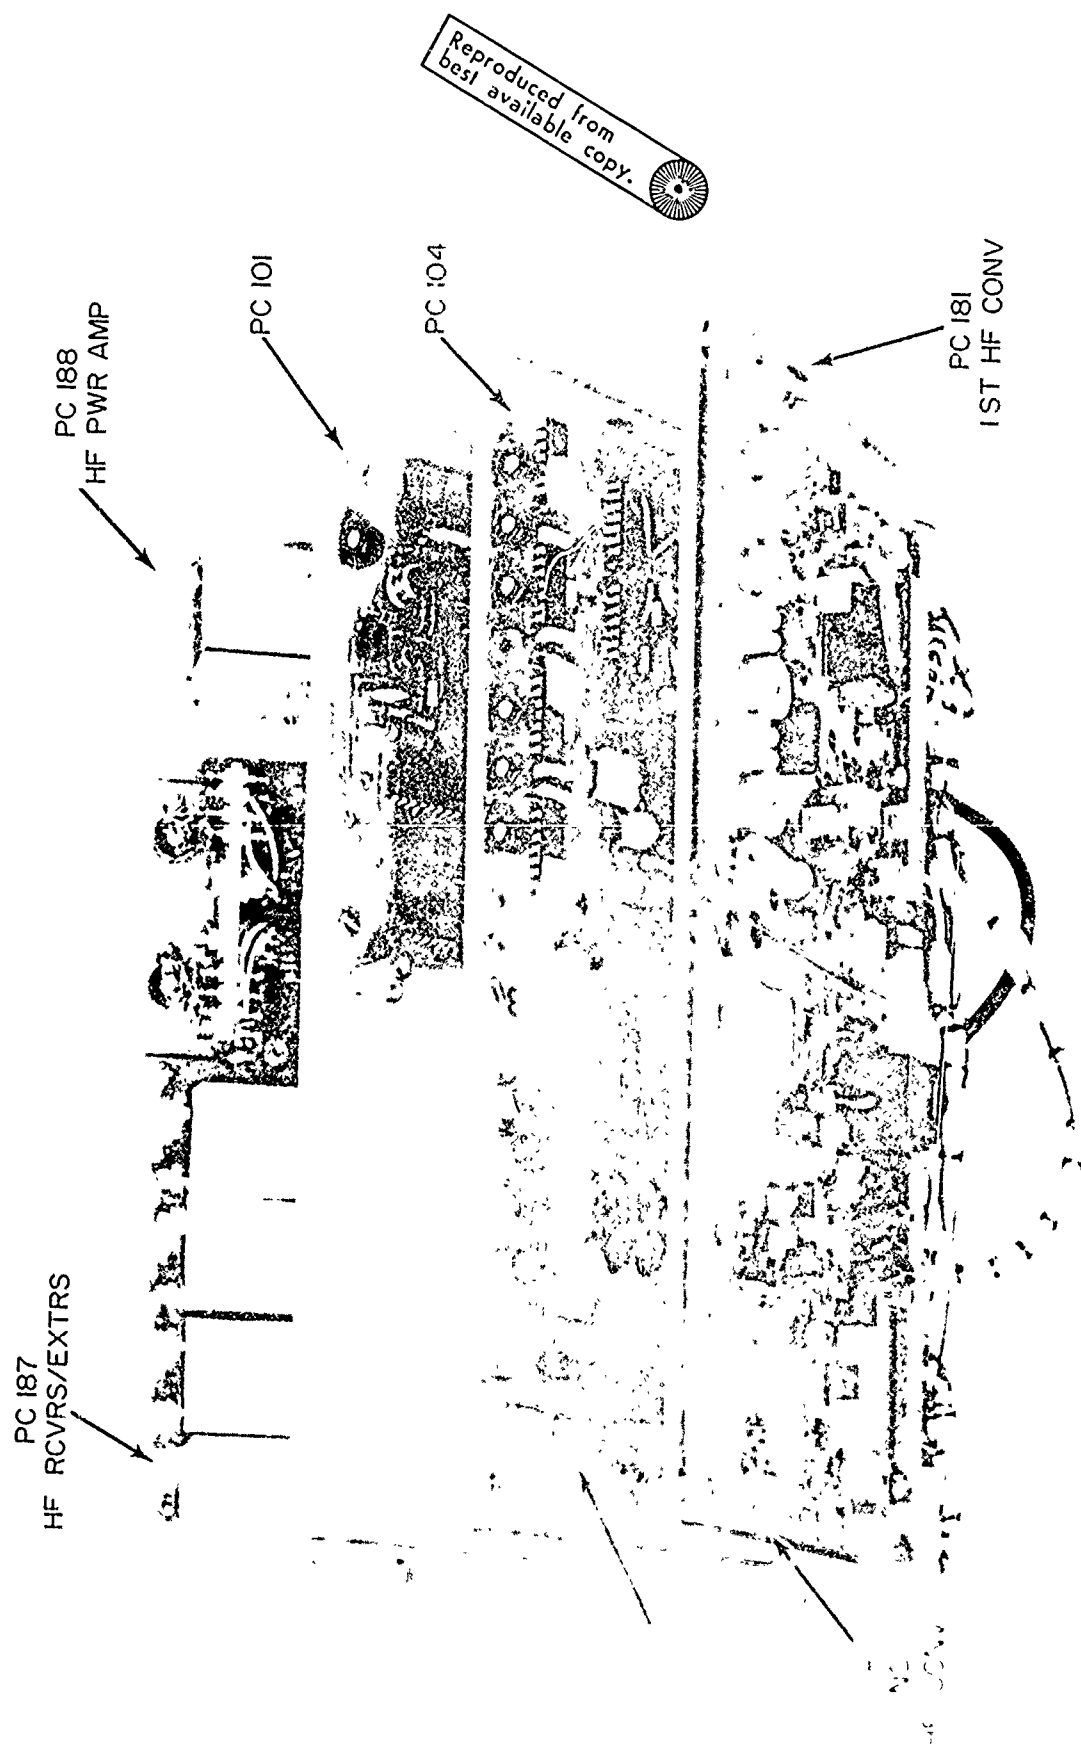

Fig. 4-2. Buoy electronics: HF and logic side
a. HF TRANSCEIVER (Fig. 4-2) - Crystals Y1, Y2, Y3, and Y4 on PC-181 are the first heterodyne crystals for HF channels 1 through 4 respectively. Crystal frequency  $F_x$  is calculated by the formula
Tune the RF TUNED CIRCUITS and MATCHING NETWORKS (Fig. 4-2). It may be necessary to replace the MATCHING NETWORK if the change in frequency is great enough.